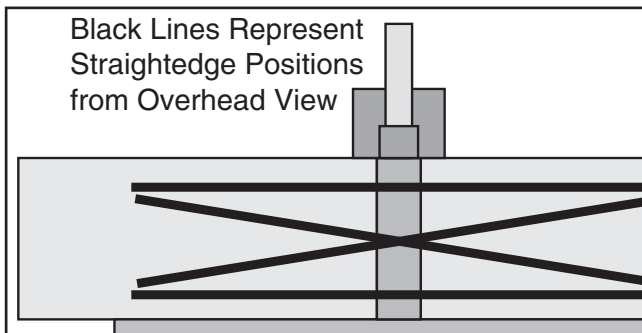

Figure 58. Straightedge positions for checking infeed/outfeed table parallelism.
4. Place straightedge in (4) positions shown in **Figure 58**. Use your hand to keep the straightedge flat on the outfeed table. This will show any areas on the infeed table that are too high or too low.